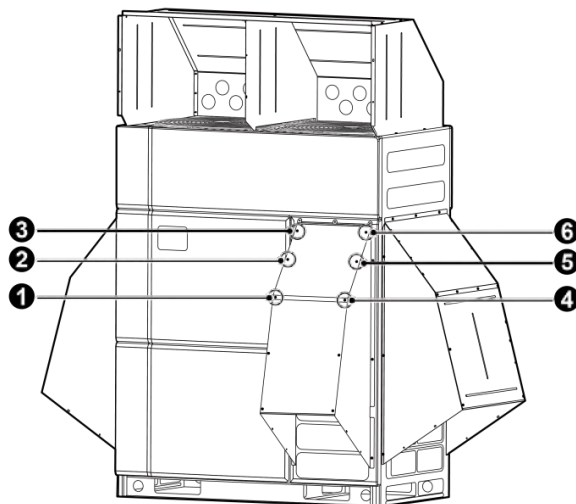

Fig. 3.30
(1) Please refer to Fig 3.30 for the installation location and sequence of screws.